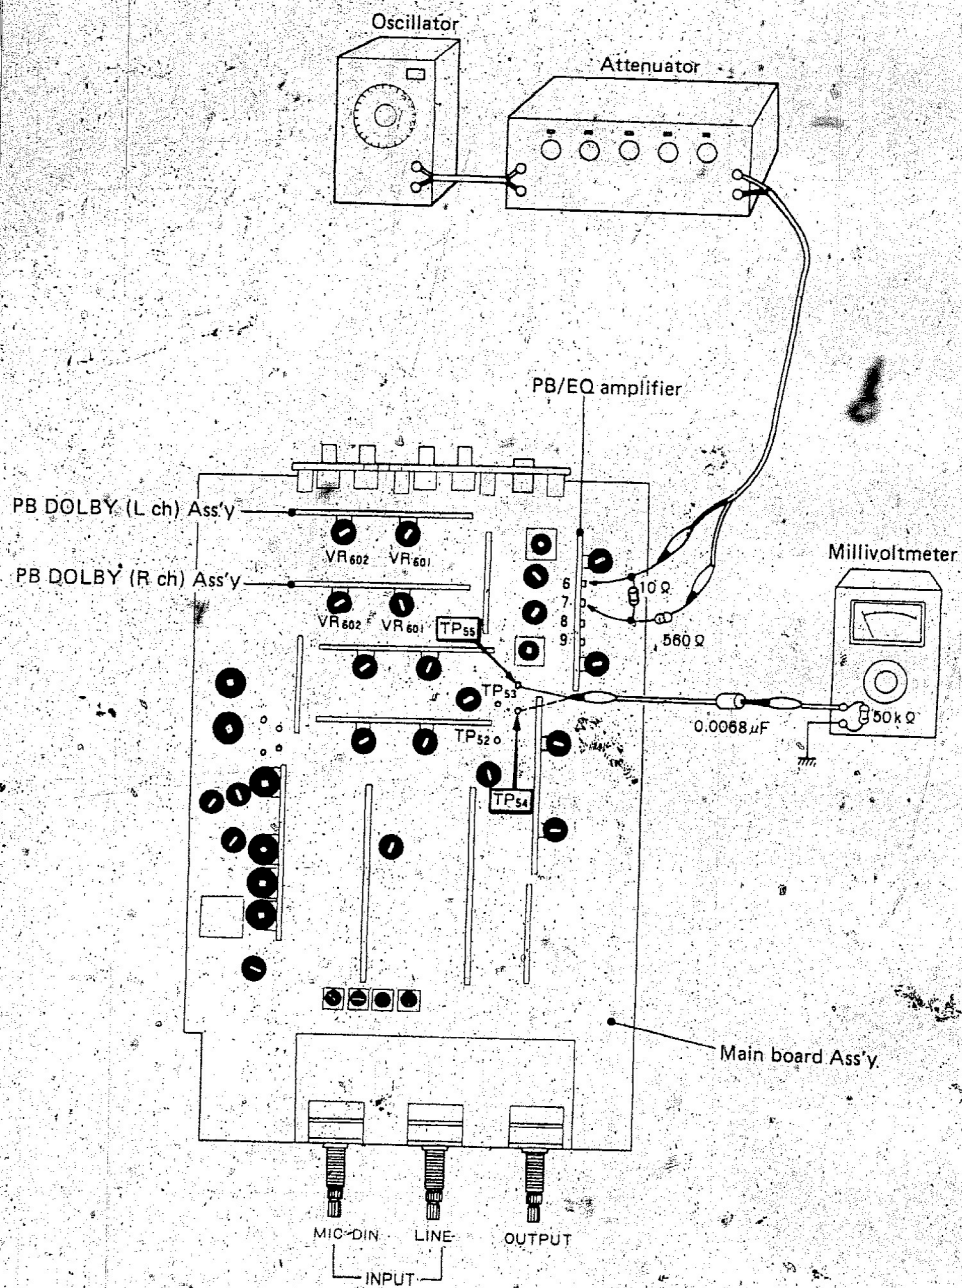

Fig. 30
1. Connect up measuring equipment as shown in Fig. 30.